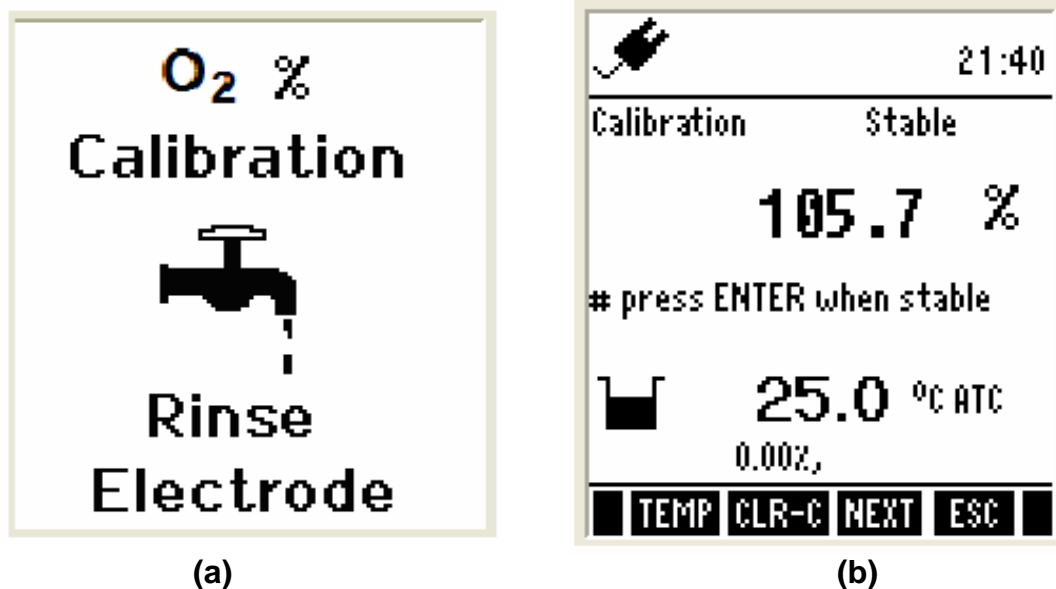

Figure 28: Saturation Calibration Screens
3. The meter shows 'Calibration-Rinse Electrode' screen Figure 28-(a)] for few seconds and then shows the calibration screen. Press **TEMP (F1)** to go to temperature calibration. The temperature calibration screen appears.
3. The meter shows 'Dissolved O₂ Calibration-Rinse Electrode' screen [Figure 28(a)] for few seconds to prompt user to rinse electrode with de-ionized water before calibration (Refer 'Prepare the Meter for Calibration' section in page 27).
5. The meter then shows saturation calibration screen [Figure 28-(b)]. The primary display will show the current value of measurement. Wait for the reading to stabilize.
3. Press **CAL** key to calibrate the meter. The meter shows 'Dissolved O₂ Calibration-Rinse Electrode' screen [Figure 28(a)] for few seconds to prompt user to rinse electrode with de-ionized water before calibration.
4. The meter shows 'Dissolved O₂ Calibration-Rinse Electrode' screen [Figure 28 (a)] for few seconds to prompt user to rinse electrode with de-ionized water before calibration (Refer 'Prepare the Meter for Calibration' section in page 27).